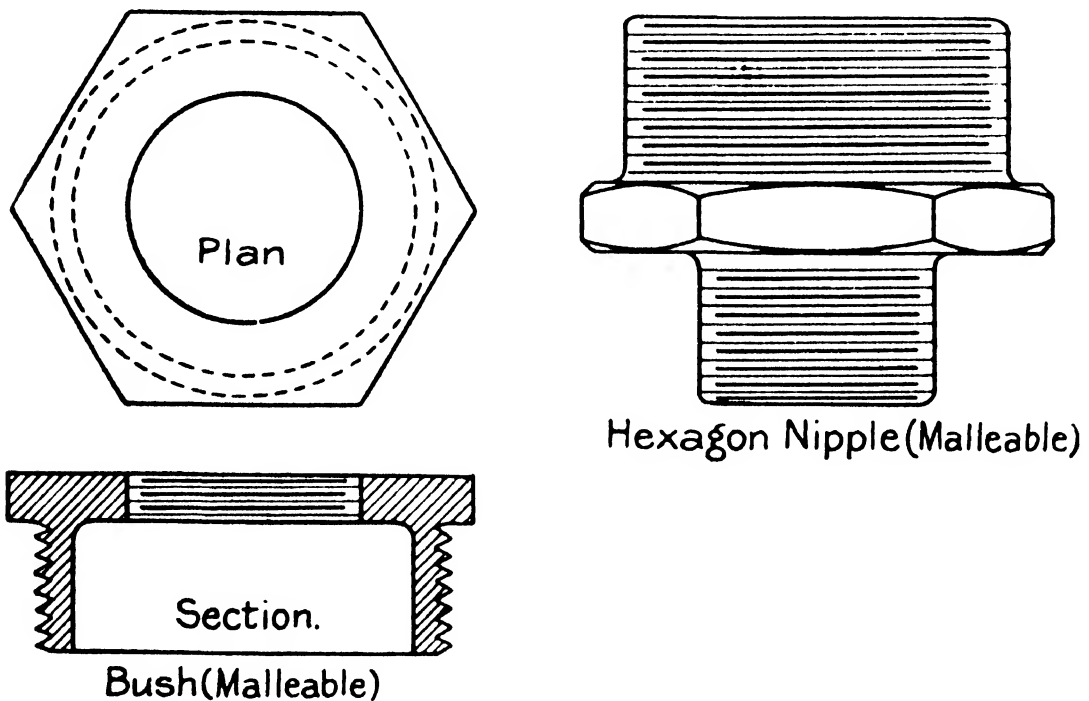

FIG. 88.—Malleable Fittings.
**Hex, Nipple and Bushing.**—Fig. 88 shows two other means of varying the bore of a connecting pipe. One sketch shows the bush or bushing, the other shows the hexagon nipple; the latter can also be had equal if desired.